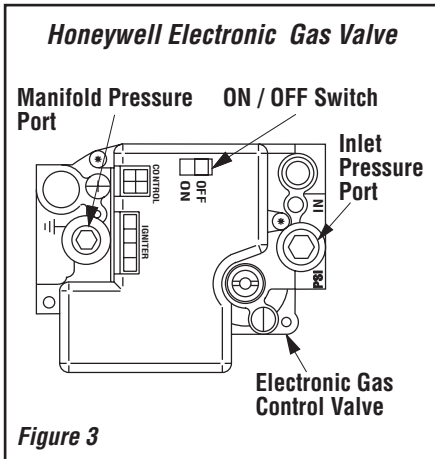
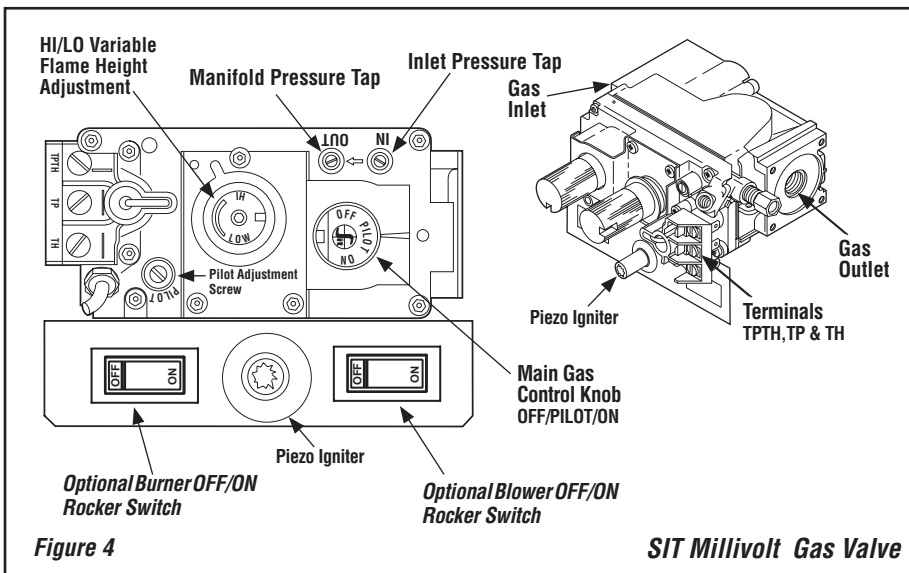

Figure 3
Figure 4
Test gauge connections are provided on the front of the millivolt gas control valve, identified IN for the inlet and OUT for the manifold side (see **Figures 4 or 5** on **Page 5**). A 1/8" NPT Test gauge connection is provided at the inlet and outlet (manifold) ports on the electronic gas control valve (see **Figure 3** on **Page 5**).
Millivolt Appliances - Appliances with Millivolt systems will be fitted with the gas control valve shown in *Figures 4 or 5*.
Electronic Appliances - Appliances with electronic systems will be fitted with the electronic valve shown in *Figure 3*.
1. All Millivolt appliances are equipped with a variable gas control valve. Flame height for these models may be adjusted through a range between fixed low and high settings while the appliance is in operation. Adjust the flame height as desired after lighting the appliance by rotating the variable adjustment control knob (HI/LO) located on the front of the valve (refer to **Figures 4 & 5**).